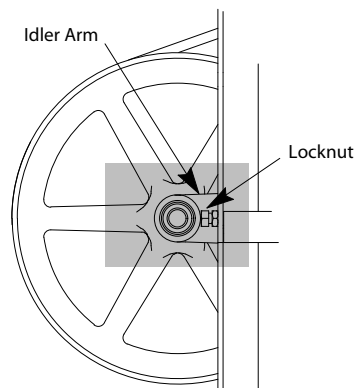

Figure 2 - Locknut Adjustment Screw
7. Check and adjust, as necessary, the tension of the 3 Vee belts between the drive wheel and the jack shaft sheave. See Figure 2.